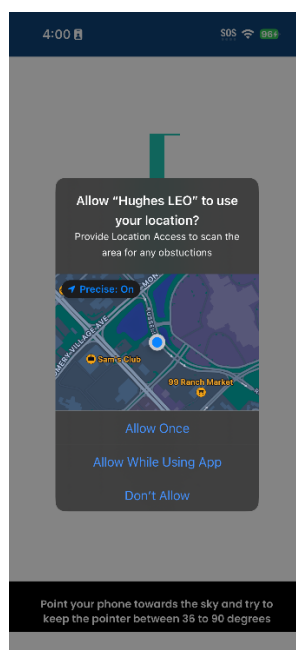

Figure 80: Allowing the app to use your location
3. The app will ask you to give your permission for using your location information, as shown in Figure 80. If you do not give location permission, the site survey procedure will abort.